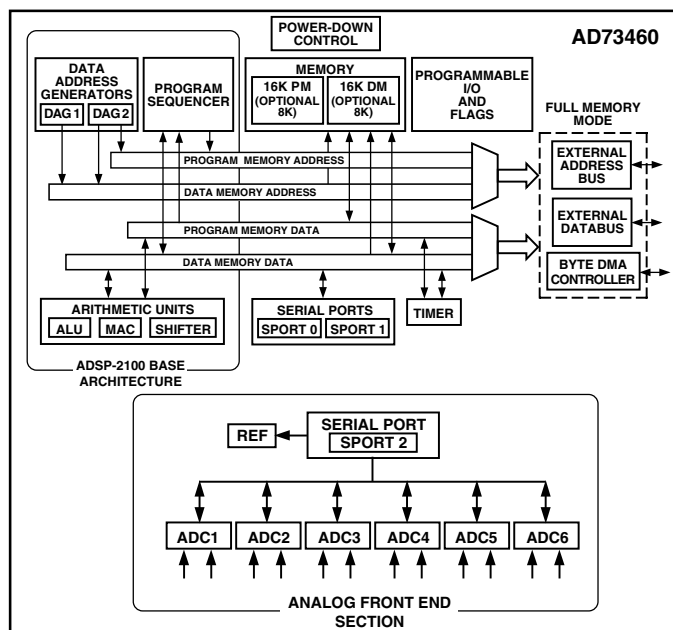

Figure 1. Functional Block Diagram
Figure 1 is an overall block diagram of the AD73460. The processor section contains three independent computational units: the ALU, the multiplier/accumulator (MAC), and the shifter. The computational units process 16-bit data directly and have provisions to support multiprecision computations. The ALU performs a standard set of arithmetic and logic operations; division primitives are also supported. The MAC performs single-cycle multiply, multiply/add, and multiply/subtract operations with 40 bits of accumulation. The shifter performs logical and arithmetic shifts, normalization, denormalization, and derive exponent operations. The internal result (R) bus connects the computational units so that the output of any unit may be the input of any unit on the next cycle.